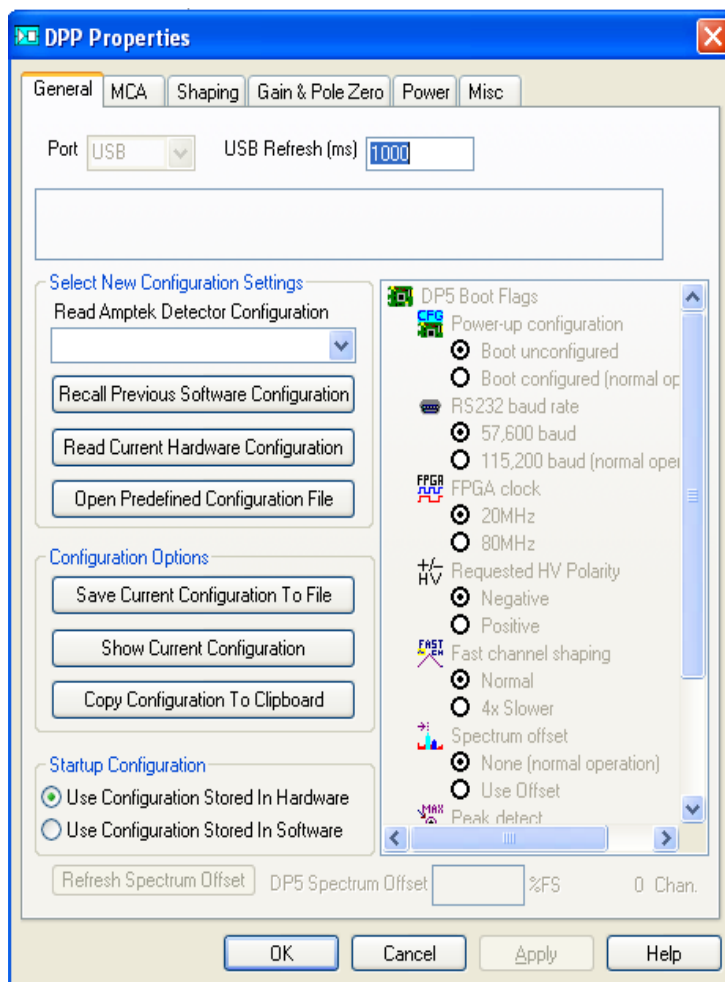

FIG.11.
5. Click on the acquisition setup button  of the toolbar. The dialogue box “DPP Properties” shown in Fig. 11 will appear. In the “General” window, select the configuration in the drop-down menu under the Read Amptek Detector Configuration line.
8. Now, some other options can be selected in the MCA window (Fig.11). You can set the full number of channels of the MCA and the time of acquisition. Begin with 1024 channels. After you have changed settings in the MCA window, press “Apply” button.